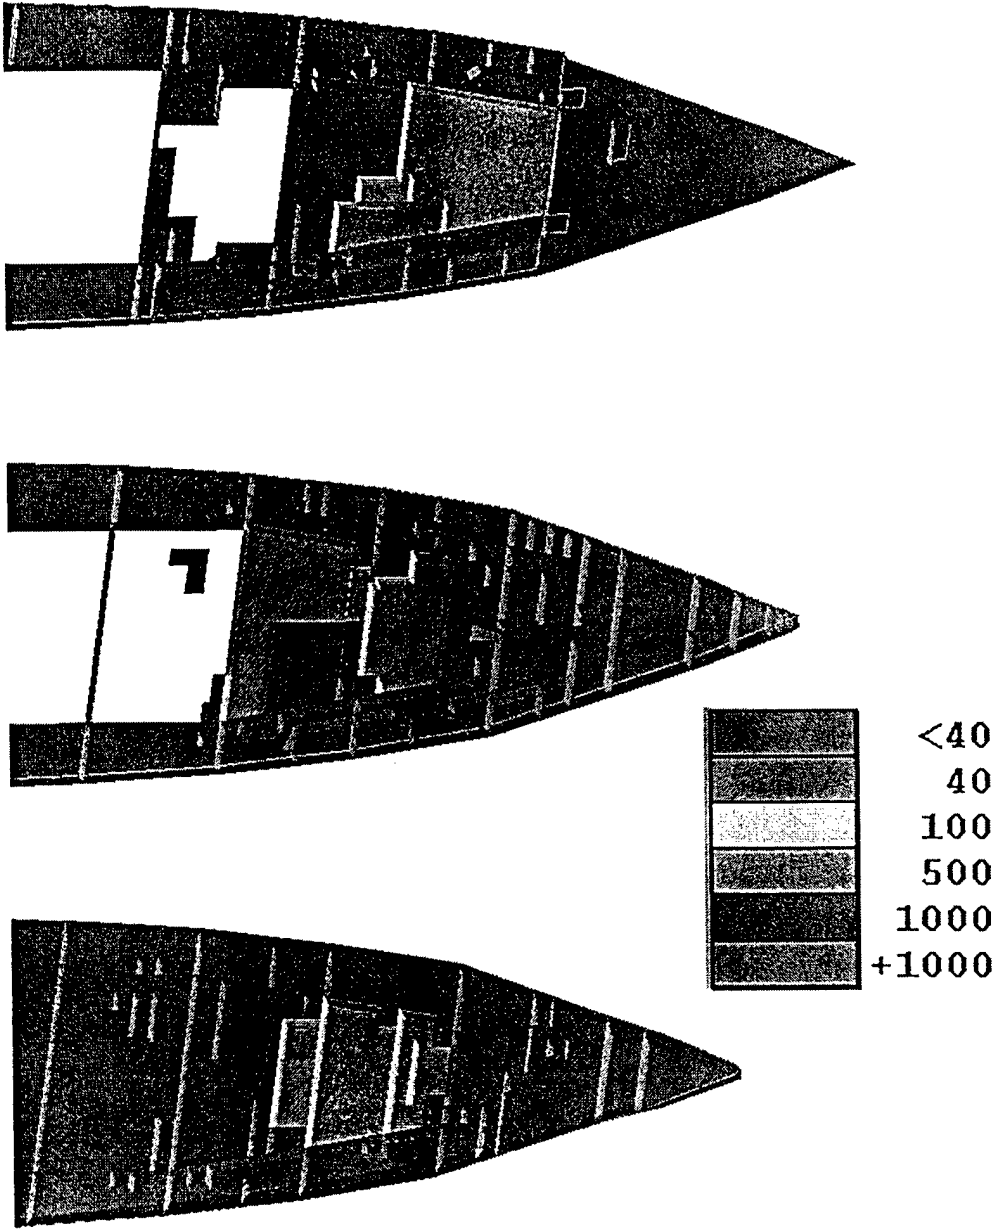
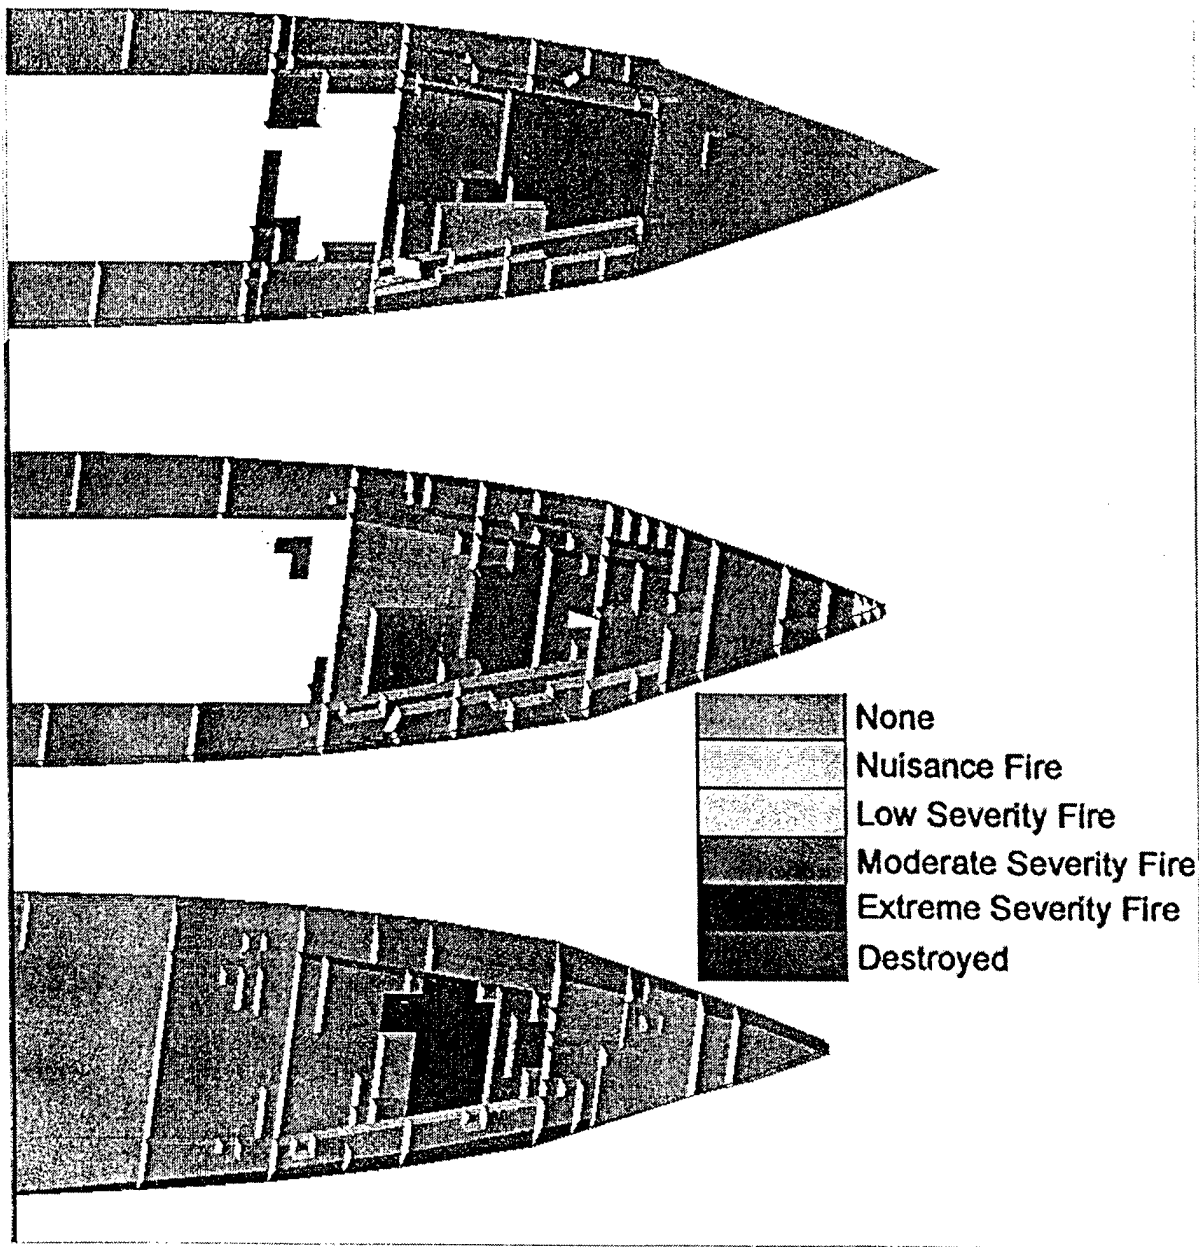
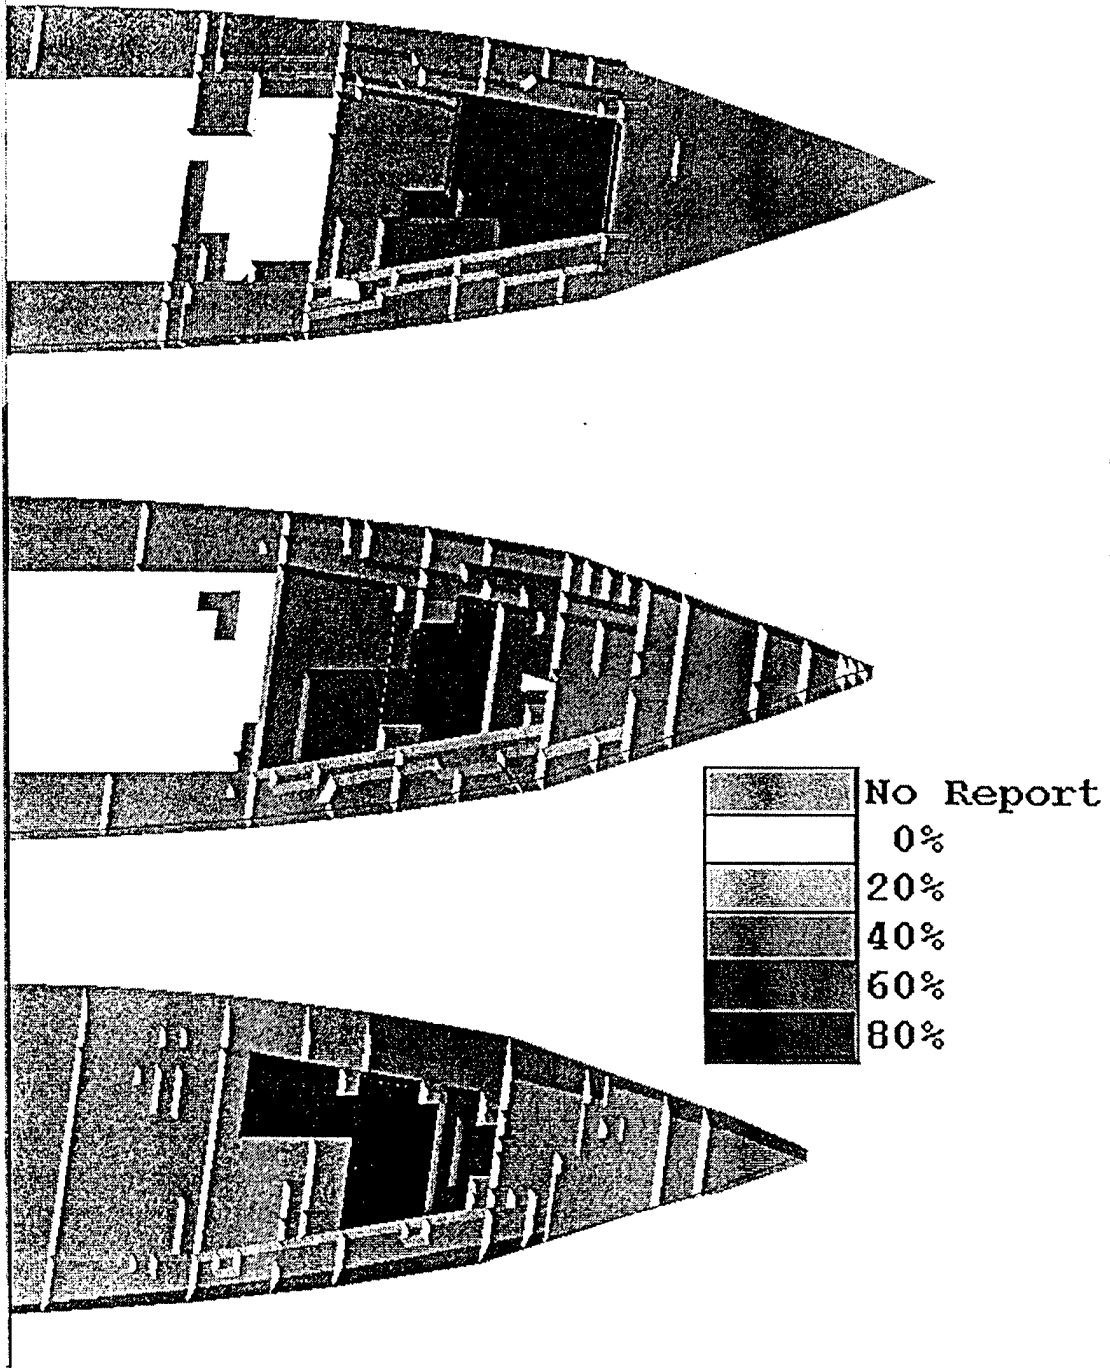

Figure 6. Example of temperature
Figure 7. Example of Classifier
Figure 8. Example of smoke
5. Visual modes: **Temperature** (Figure 6), **Classifier** (Figure 7), and **Smoke** (Figure 8). Each one will show its respective color scheme.